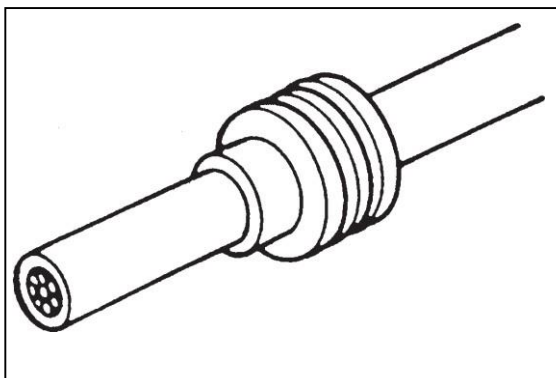

Figure 10
1. **FOR SEALED CONNECTION SYSTEMS ONLY:** Slide the appropriate cable seal onto the wire end to be terminated as shown in Figure 10.